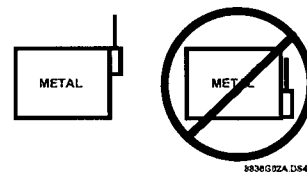

Figure 2. Mounting on or Near Metal
- Avoid areas with excessive metal or electrical wiring, including furnace and utility rooms. If unavoidable, mount on or near metal with the antennas extending above the metallic surfaces, as shown in figure 2.